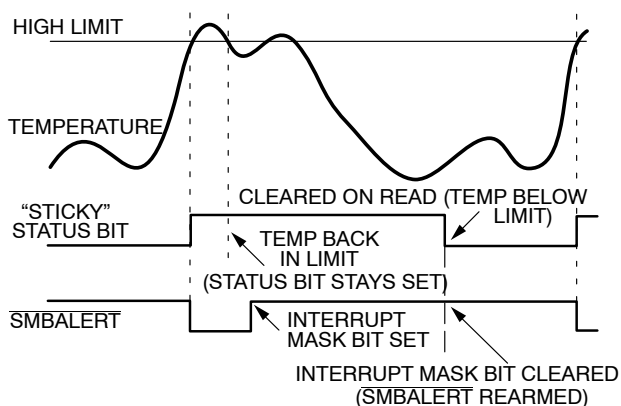

Figure 28. Effect of Masking the Interrupt Source on SMBALERT Output
7. Periodically poll the status registers. If the interrupt status bit has cleared, reset the corresponding interrupt mask bit to 0. This causes the $\overline{\text{SMBALERT}}$ output and status bits to behave as shown in Figure 28.